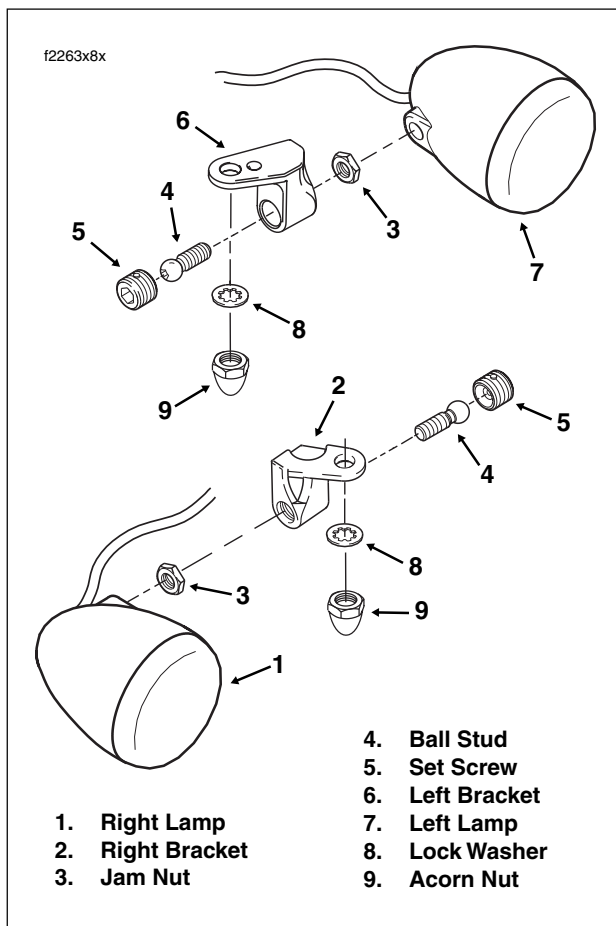

Figure 8-57. Front Turn Signal Lamp Brackets (FLHR)
- Using a 1/4 inch allen head socket, loosen set screw in turn signal lamp bracket. See Figure 8-57.